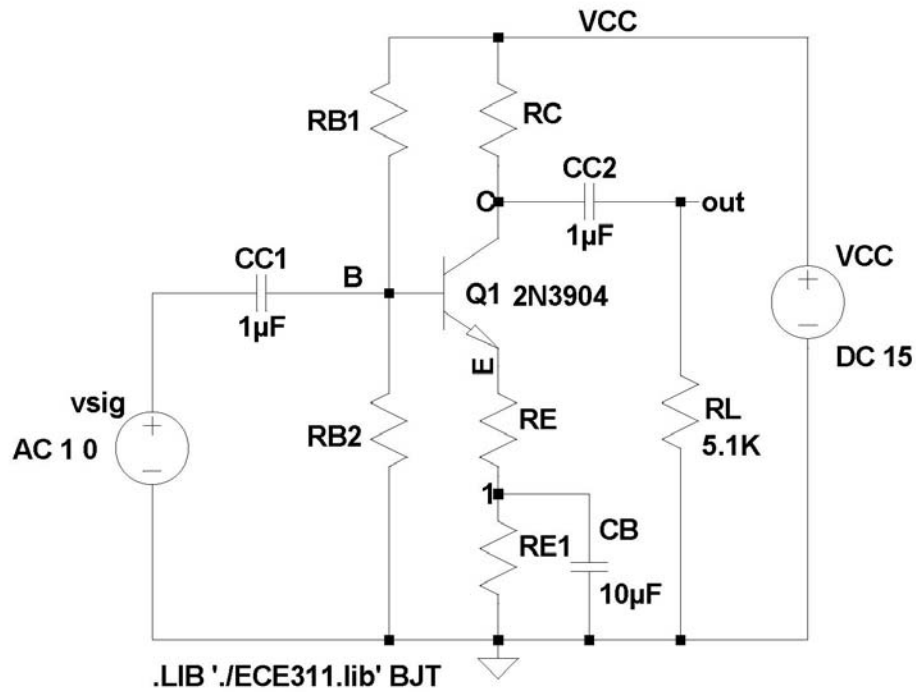

Figure 2: LTSpice Schematic
- (1) Find the expected values of V_B , V_C , V_E , $I_{R_{B1}}$, $I_{R_{B2}}$, and I_C for the amplifier using the standard values you've chosen for the resistors.
- (2) Derive the expressions for and find the expected values of R_{in} and R_{out} for the amplifier.
- (3) Derive the expression for and the value of v_o/v_{sig} .
- (4) Derive the expression for and find the value of v_o/v_i (the voltage gain from the base to the output) using the standard resistor values you've chosen for the resistors. This value should ideally be $-12.5 V/V$ as specified.
- (5) Simulate the design using LTSpice to verify that it meets specs. Use the ECE310 model for the 2N3904. Turn in the following:
- a. Schematic drawn in LTSpice with nodes labeled as shown in Figure 2.
- (6) Bring a copy of your calculations and expressions to use in the laboratory.